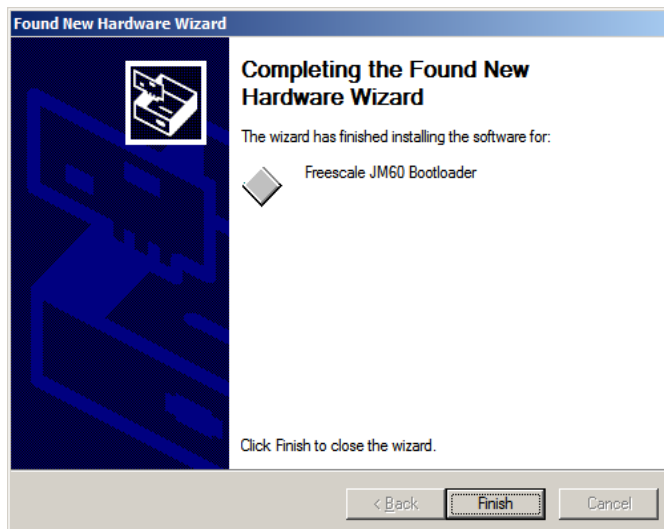

Figure 13. Driver Install Finish
- Figure 13 shows how the interface appears. Click Finish to complete the installation.